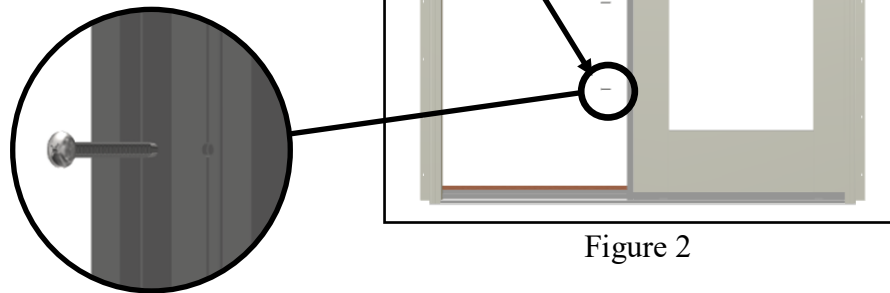

Figure 2
3. Apply stile extension screws into the predrilled holes, leaving the top 2 and bottom 2 holes empty for the head and sill clips in a next step. (Fig. 2)